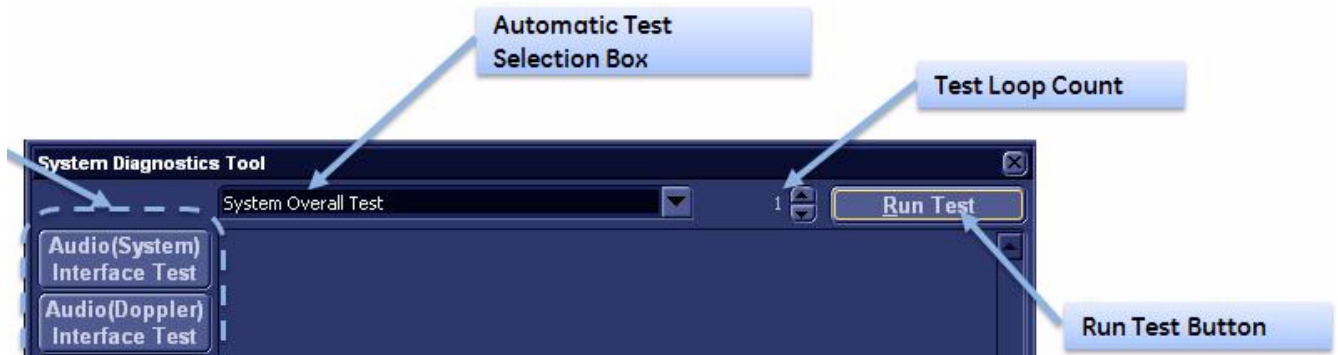

Figure 7-50 Automatic Test Selection Box
- 1.) Select the TEMPERATURE TEST button in the Diagnostics Tool window. (see : Figure 7-50 below).